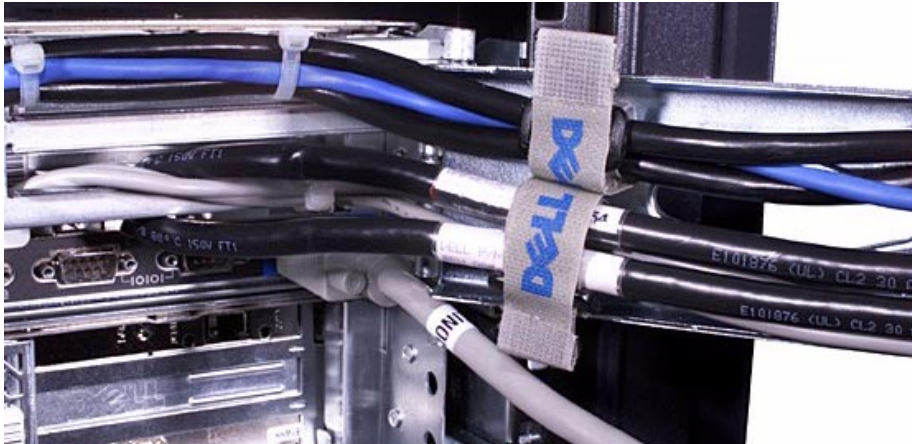

Figure 11. Securing the PS/2 and SCSI Cables to the Cable Management Arm
4. Secure the two PS/2 cables of the KVM cable and the two SCSI cables to the bottom of the cable management arm (see Figure 11).